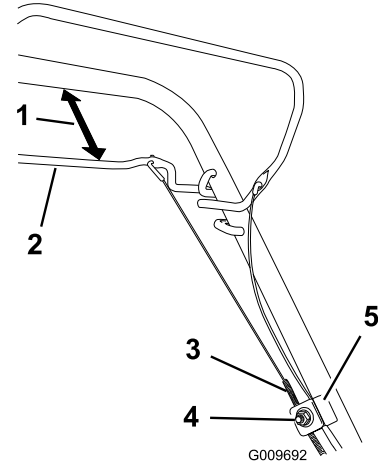

Figure 27
1. Loosen the cable-support nut (Figure 27).
2. Hold the self-propel-drive bar 25 to 38 mm (1 to 1-1/2 inches) from the handle (Figure 27).
3. Pull down the cable jacket (toward the machine) until there is no slack in the cable (Figure 27).